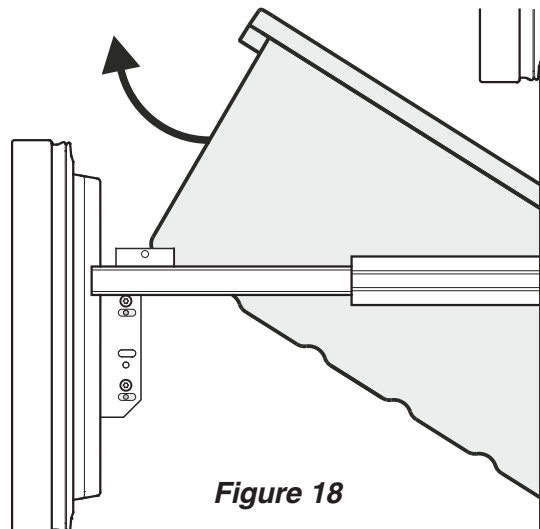

Figure 18
- Tilt the container at an angle and remove - **Figure 18.**